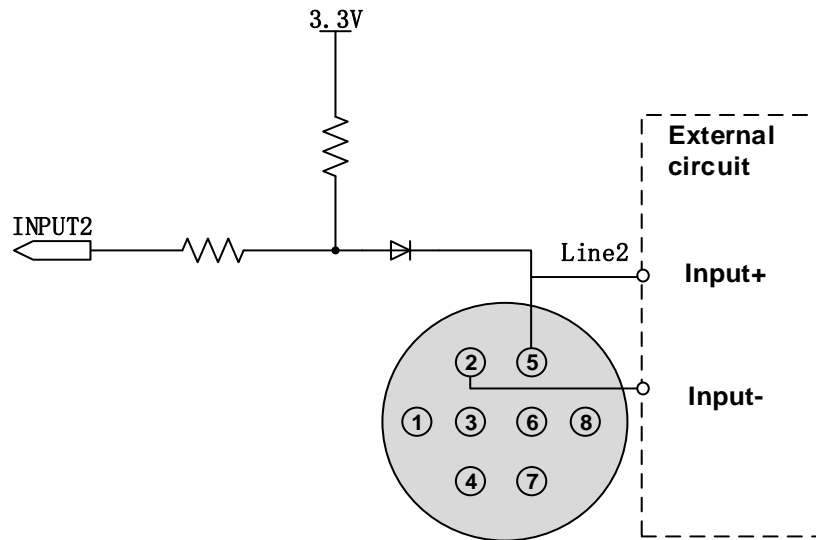

Figure 7-6 Internal equivalent circuit of camera when Line2 is configured as input
- When Line2/3 is configured as input, the internal equivalent circuit of camera is shown in Figure 7-6, taking Line2 as an example